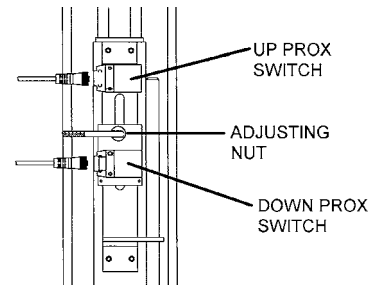

Figure 56B
3. Loosen adjusting nut (see Figure 56B) and move switch down until actuator (target) bar is located in front of switch sensing head. The (yellow) signal light on the switch will be illuminated. (The green power light must always be illuminated. This comes on when the ignition power is on.)